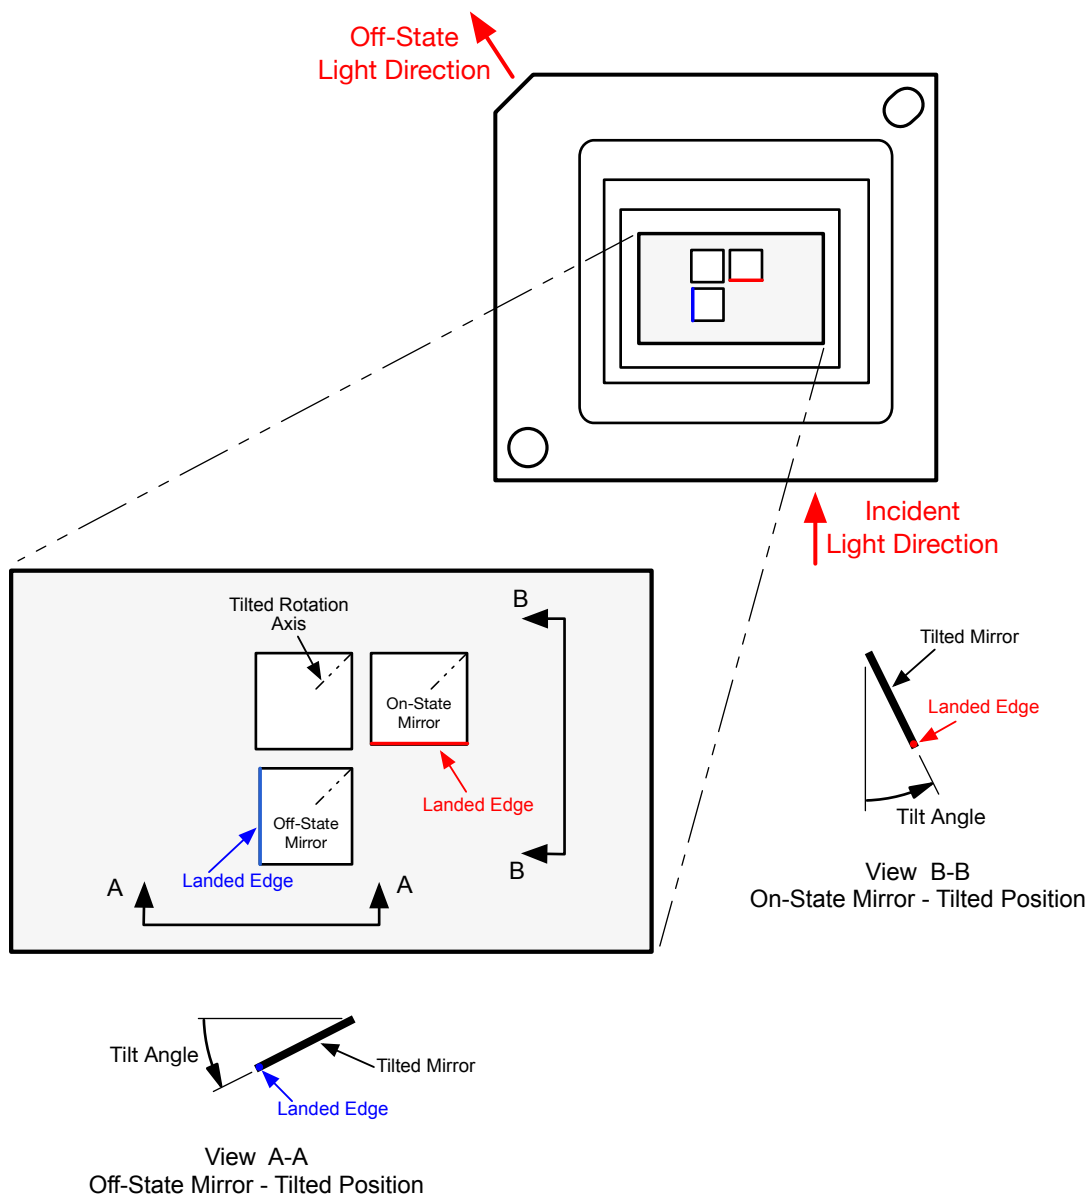

Figure 6-10. Micromirror Landed Orientation and Tilt
- (1) Measured relative to the plane formed by the overall micromirror array
- (2) Represents the variation that can occur between any two individual micromirrors, located on the same device or located on different devices.
- (3) For some applications, it is critical to account for the micromirror tilt angle variation in the overall system optical design. With some system optical designs, the micromirror tilt angle variation within a device may result in perceivable non-uniformities in the light field reflected from the micromirror array. With some system optical designs, the micromirror tilt angle variation between devices may result in colorimetry variations, system efficiency variations, system contrast variations, and optical power variations.
- (4) When the micromirror array is landed (not parked), the tilt direction of each individual micromirror is dictated by the binary contents of the CMOS memory cell associated with each individual micromirror. A binary value of 1 results in a micromirror landing in the ON State direction. A binary value of 0 results in a micromirror landing in the OFF State direction. See Figure 6-10.
- (5) The time required for a micromirror to nominally transition from one landed state to the opposite landed state.
- (6) The minimum time between successive transitions of a micromirror.
- (7) An out-of-specification micromirror is defined as a micromirror that is unable to transition between the two landed states within the specified Micromirror Switching Time.
- (8) Efficiency numbers assume 35-degree illumination angle, F/2.4 illumination and collection cones, uniform source spectrum, and uniform pupil illumination.